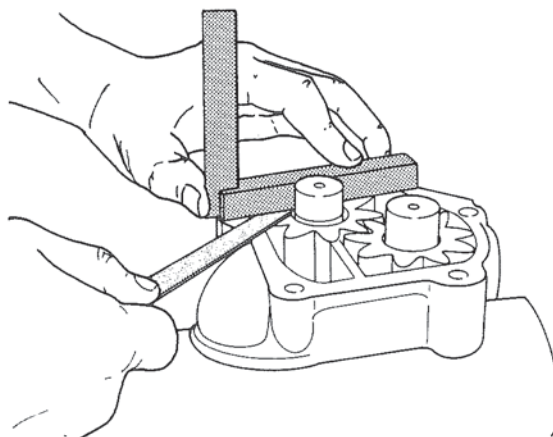

Figure 5. Measuring Gear Face to Body Face Clearance.
2. Measure clearance between gear face and body face. Figure 5.